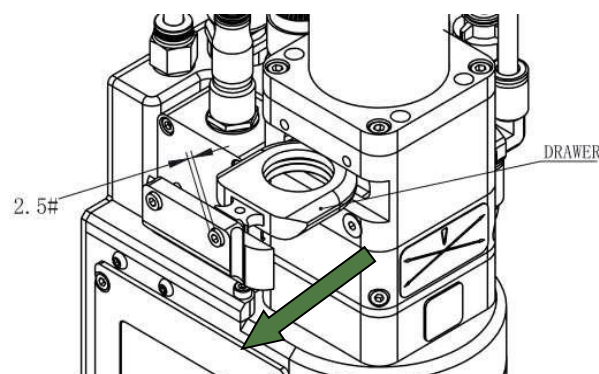

Figure 8 Replacement of top cover glass
- Use an inner hexagon spanner to unscrew the screw of top cover glass (as shown in figure 8);